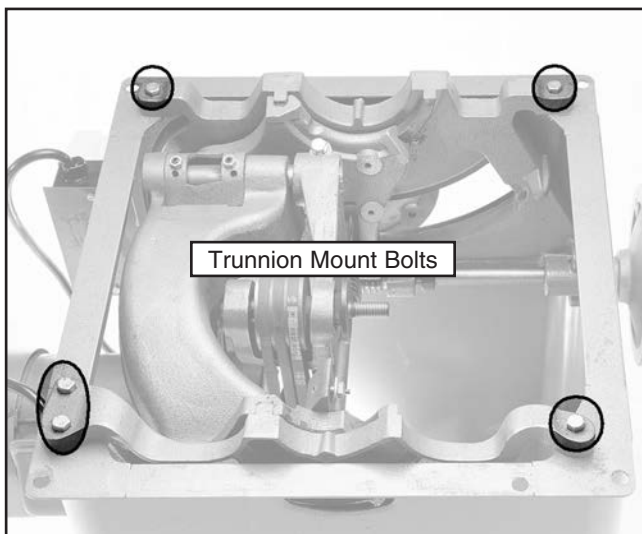

Figure 27. Trunnion mounting bolts.
3. Loosen the four trunnion mounting bolts as shown in **Figure 27**, and nudge to either the left or right depending on where the blade is hitting the saw.